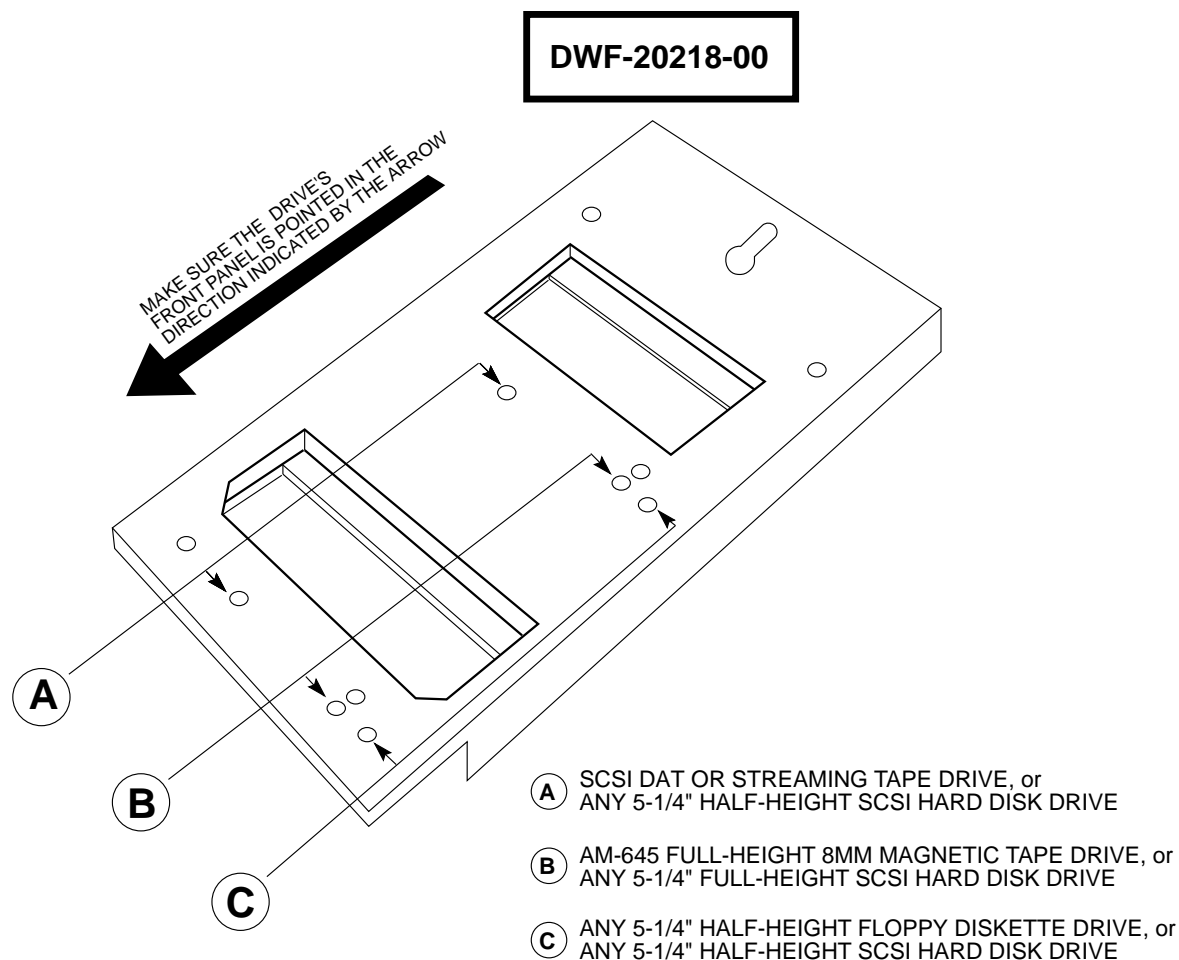

Figure 4 - Plastic Mounting Base
2. The AM-650 has a number of mounting screw holes on its side. There are corresponding holes in the plastic mounting base. Align the screw holes on the drive with the designated holes in the mounting base (marked as A in Figure 4). Make sure the drive's front panel is pointed in the direction indicated by the arrow.